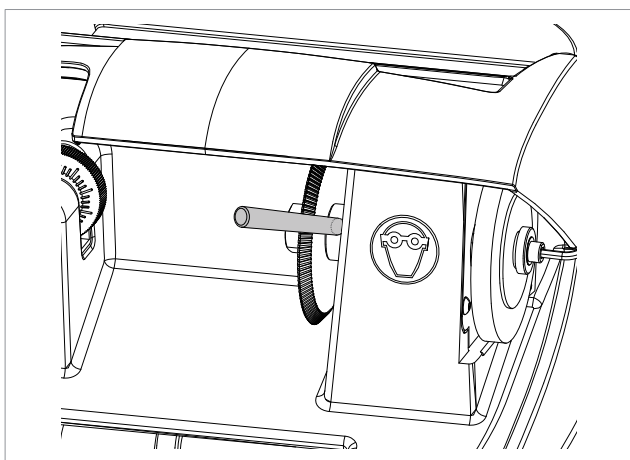

Fig. 30
- 1) Slot the locking rod (provided) into the hole of the cutting tool shaft (Fig. 30).